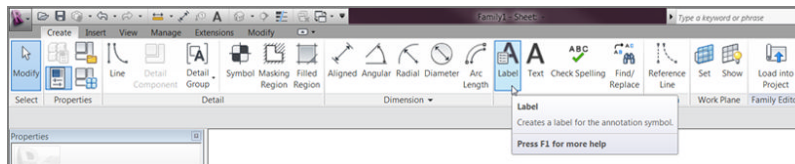

FIGURE 11.73: Clicking the Label button
1. In the Text panel on the Create tab, click the Label button, as shown in Figure 11.73.